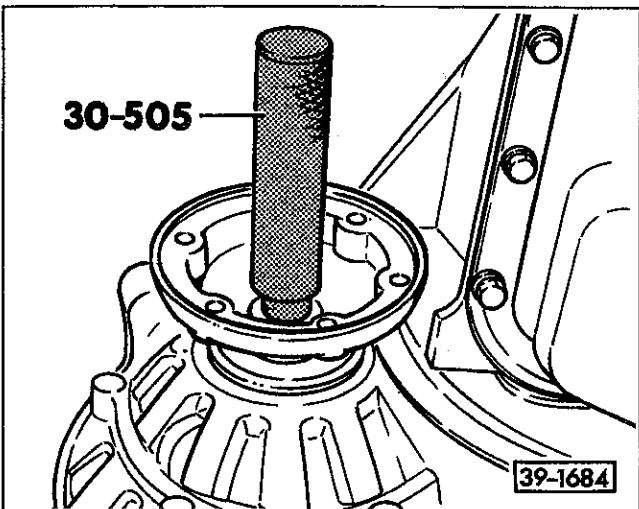

Fig. 11. Drive flange being installed using Volkswagen special tool no. 30-505.
2. Install and drive the drive flange in until the retaining circlip engages circlip groove. See Fig. 11.